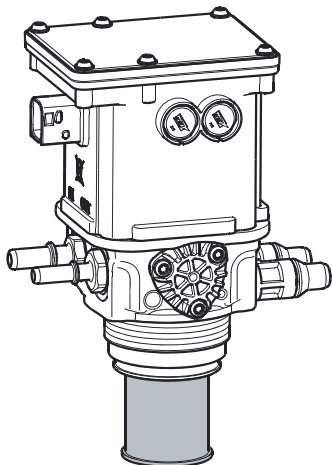

Figure 5-5-16 Install New Filter
8. Install the new filter. See Figure 5-5-16.